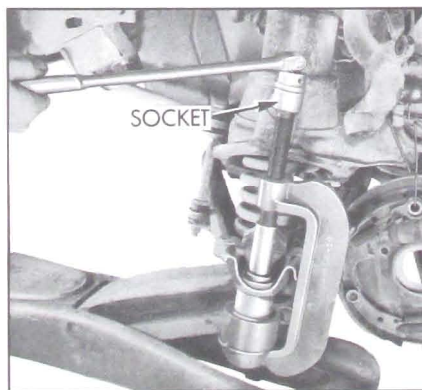

Figure 7-16—Removing Lower Ball Joint
7. Tighten Detail J-9519-8 with a socket and handle as shown in Figure 7-16 until ball joint is forced out of the lower control arm. CAUTION: Ball joint may pop out suddenly!